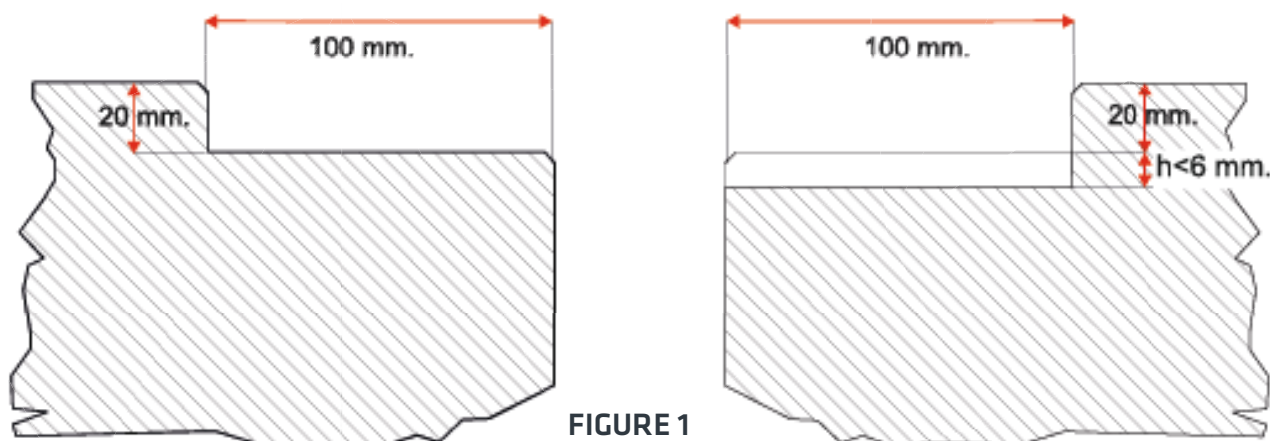

FIGURE 1
3. Verify that the deck and the base of the blockout are formed level and at the same elevation across the joint (see Figure 1). The difference in deck heights cannot be greater than 6 mm.